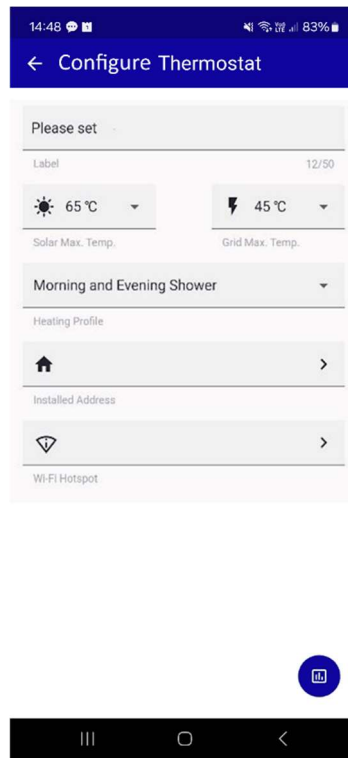

Figure 4.11 Configure screen
36. The application should display the “Configure Thermostat” screen (Figure 4.11)